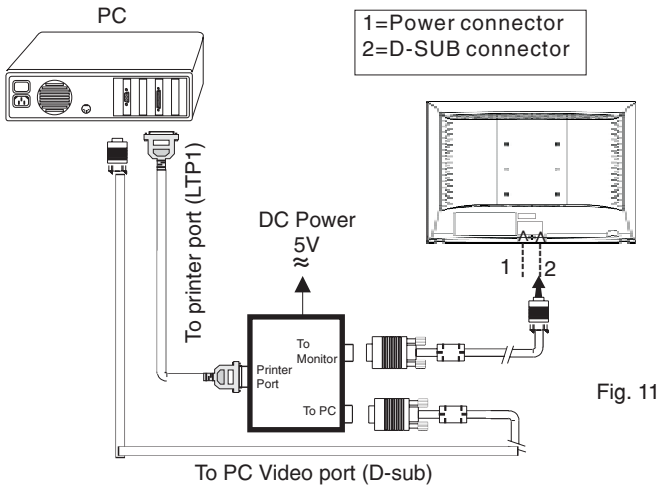

Fig. 11
Step 1: After initialize alignment box, connecting all cables and box as shown in Fig. 11